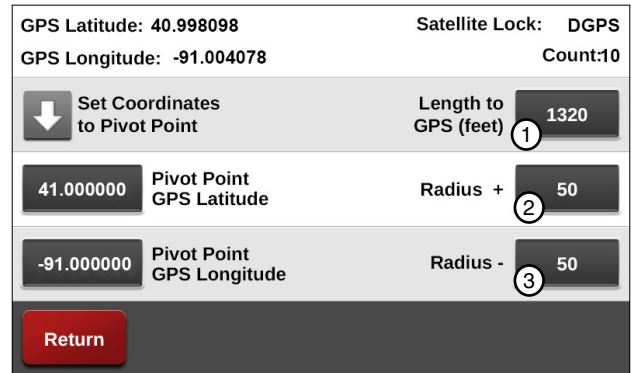

Figure 39-1 GPS Screen
1. Push **Menu**, **Setup**, **Constants**, **Position** and **GPS Setup** to display the GPS Setup screen. Refer to Figure 39-1.